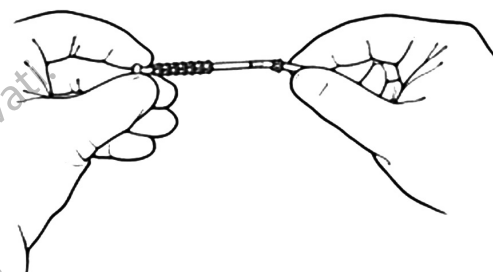

Figure 4-31. Slide on Collet
2. Slide collet ring onto tubing, making sure collet ring teeth face toward tubing end. (Figure 4-31)